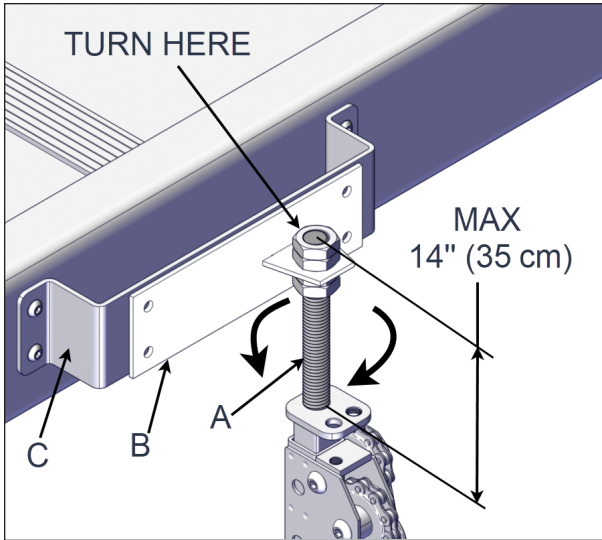

FIGURE 73: THREADED ROD ADJUSTMENT
- The jack adapter located at the top of the jack can be adjusted by turning the threaded rod on the top of the jack. Use an adjustable wrench to adjust the height so that they match the cover mount bracket holes. Repeat this step for all four jacks (Figure 73).
The threaded rod must not be unscrewed more than 14 inches (35 cm). Measure the length from the top of the threaded rod nut to the top of the bottom nut, see Figure 73.